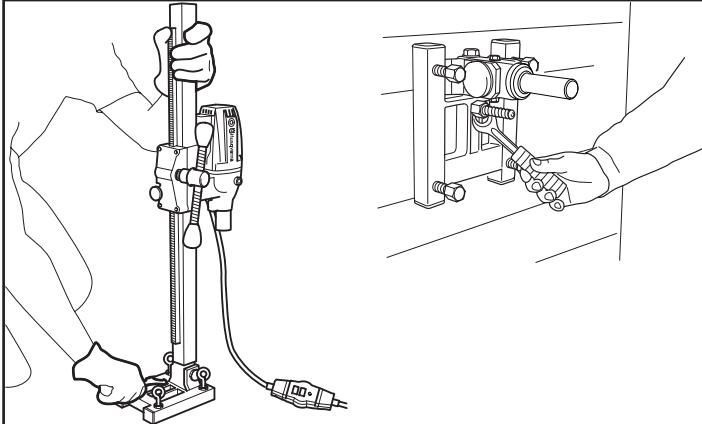

Fig. 3
1. Abra furos (15 mm) no chão ou na parede e aplique os parafusos de expansão, aparafuse a placa de base DMS 160A / DMS 160 AT, Fig. 3, e verifique minuciosamente se o expensor
1. Drill holes (15 mm) in the floor or walls and hammer in the expander screws. Screw the foot plate DMS 160A / DMS 160 AT into position, Fig 3, check carefully that the expander is correctly seated.